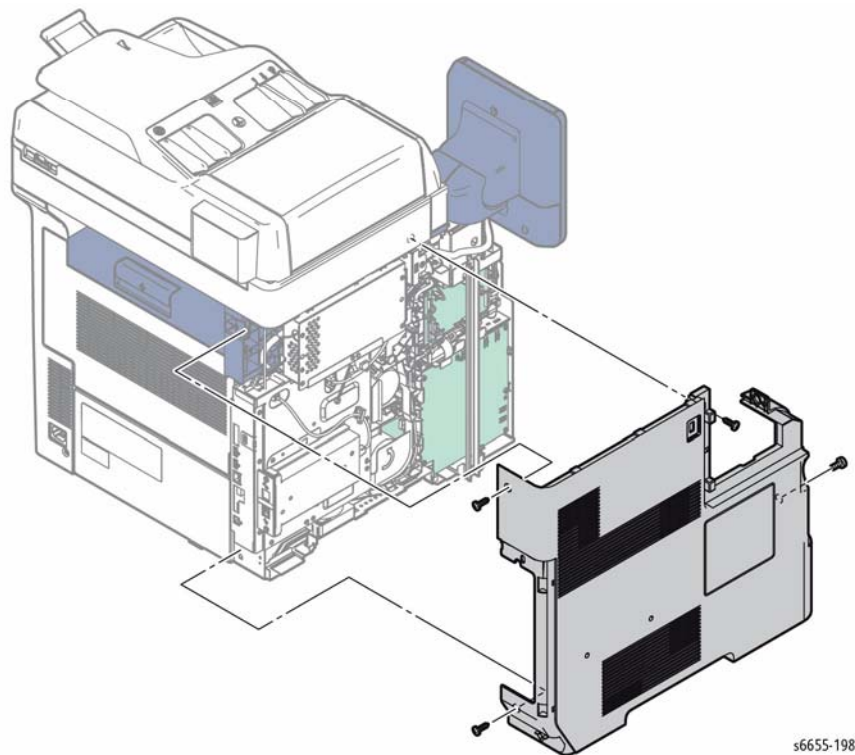

Figure 1 Remove the Left Cover Assembly
4. Refer to Figure 1 to locate and remove two screws (silver, tapping, 8 mm) and two screws (silver, 6 mm) that attach the Left Cover Assembly to the printer.